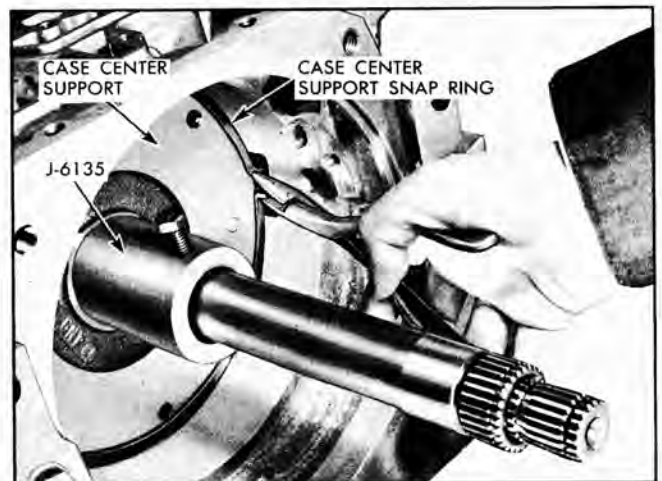

Fig. 59 Removing Case Center Support Snap Ring
8. Remove center support to case snap ring (Fig. 59).